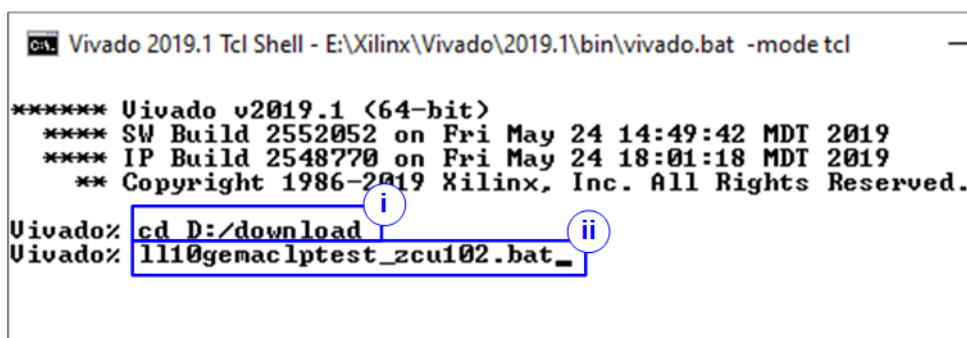

Figure 2-4 Example command script for download to ZCU102 by Vivado tool
- ii) Type "ll10gemacipctest\_zcu102.bat" to configure FPGA and download firmware, as shown in Figure 2-4.